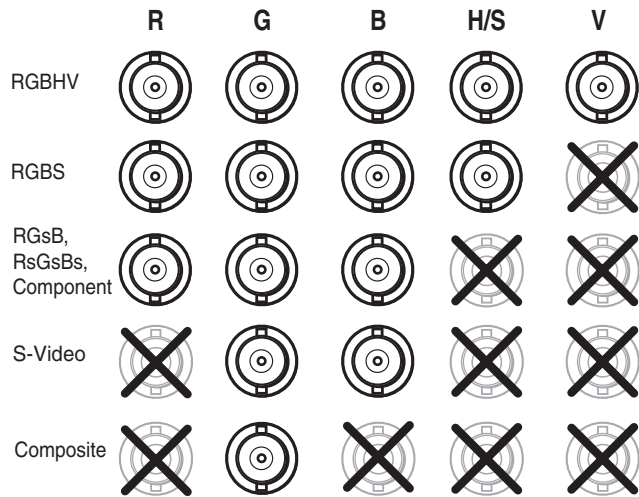

Figure 4— BNC connectors
- ① **Power connector** — Plug the external power supply cord into this connector.
- ② **Video output connectors** — Connect up to two RGBHV, RGBS, RGsB, RsGsBs, component video, S-video, high resolution monochrome video, or composite video output devices, such as data projectors or data monitors, to these female BNC connectors. See figure 4, *BNC connectors* for a connection diagram.
- ③ **Inputs/Loop-thru connectors** — Connect an RGBHV, RGBS, RGsB, RsGsBs, component video, S-video, high resolution monochrome video, or composite video device to these female BNC connectors. See figure 4, *BNC connectors* for a connection diagram.
- ④ **Gain controls** — Rotate to adjust the amount of amplification added to the individual red, green and blue video signals to compensate for long cable runs. The adjustment range is 0.7 (30% decrease) to 1.4 (40% increase).
- ⑤ **Peaking control** — Rotate to adjust the amount of high frequency boost added to the video signals to compensate for long cable runs.